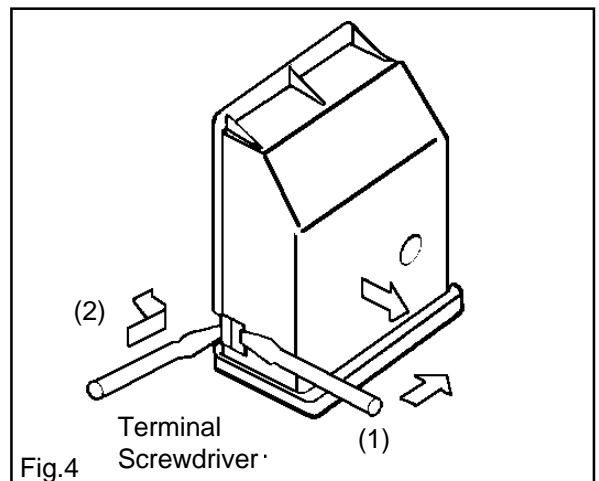

Fig.4
- Prise cover loose using screwdriver in position (1) then lever off with screwdriver in position (2) at either side. See Fig. 4.